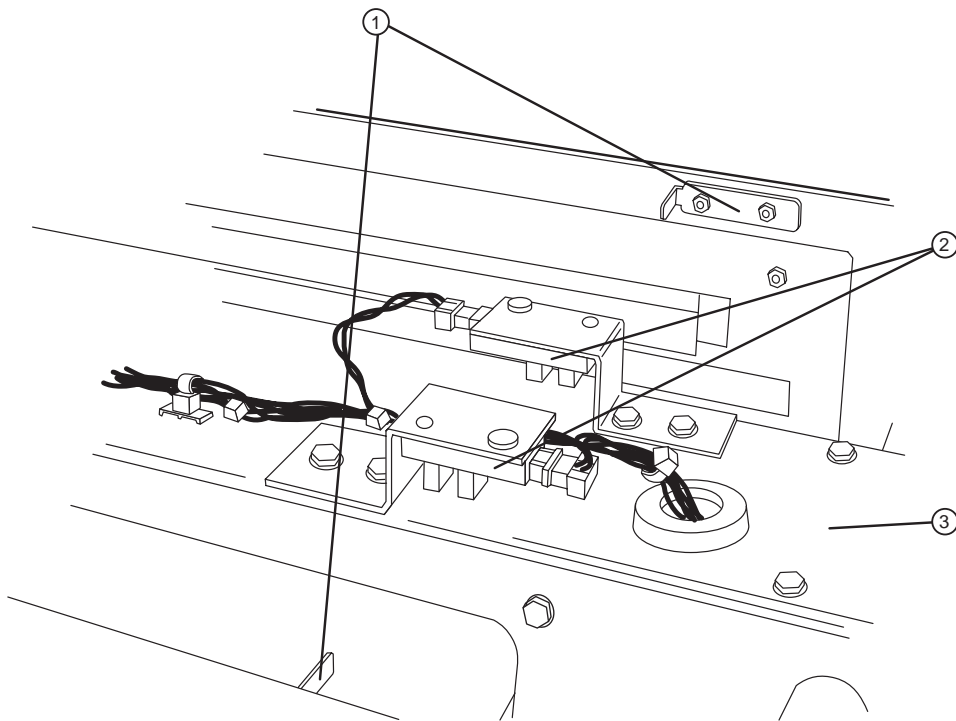

Figure 2-1 Buffer sensors and flags.
2. Disconnect the connector(s) from the sensor(s). Refer to Figure 2-1 for identification.